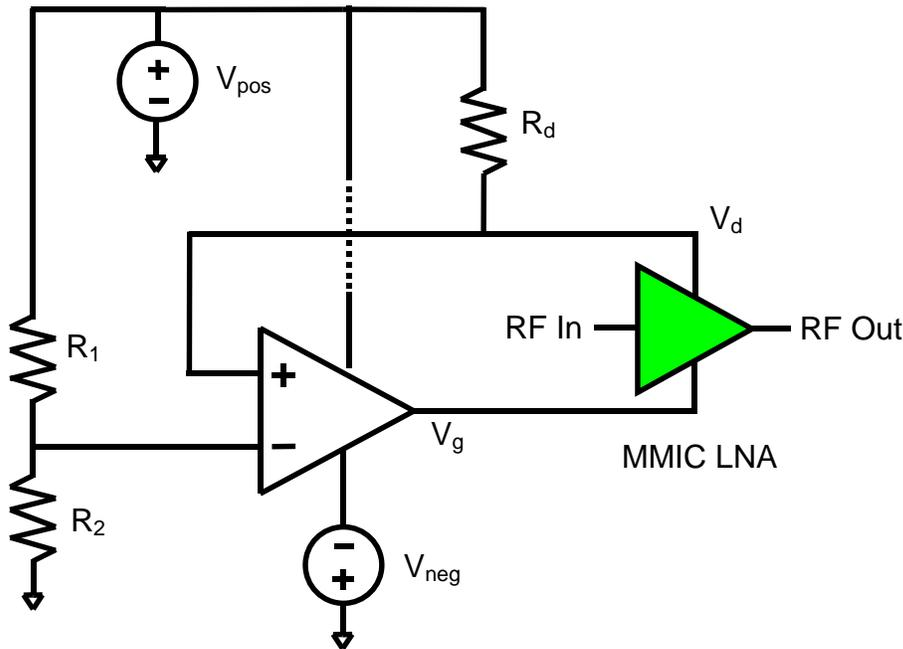

Figure 1
Method: The circuit shown in Figure 1 below will automatically set the gate voltage (which is equivalently the gate-source voltage because the source is grounded on the MMIC chip) to achieve a desired current target, I_d , as defined by
- 1.) Op amp stability – The design should ensure that the op amp will be stable driving the load presented by the gate terminal of the MMIC. This includes any bypass capacitors (not shown in Figure 1) which might be attached to this terminal. These capacitors are often necessary to ensure the stability of the MMIC at frequencies much lower than their band of operation. Capacitance values below